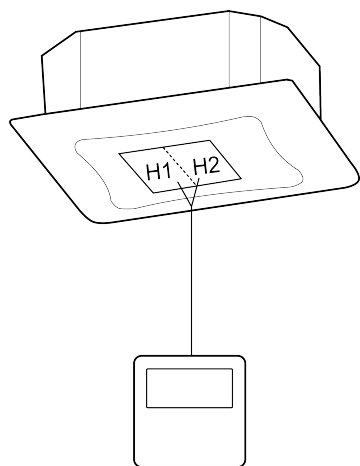
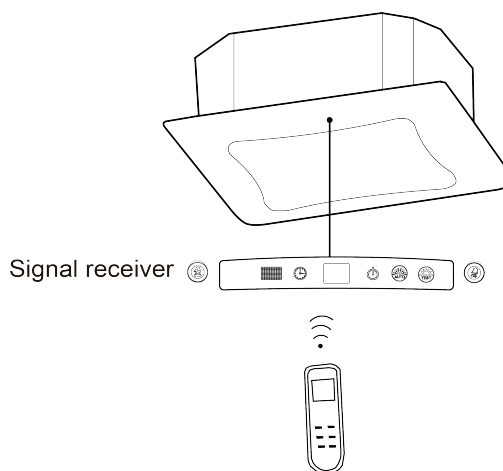

Fig.5.4.1
Fig.5.4.2
- 1) Wired controller is shown as Fig.5.4.1, wireless controller is shown as Fig.5.4.2, signal receiver is provided with panel as standard accessory.